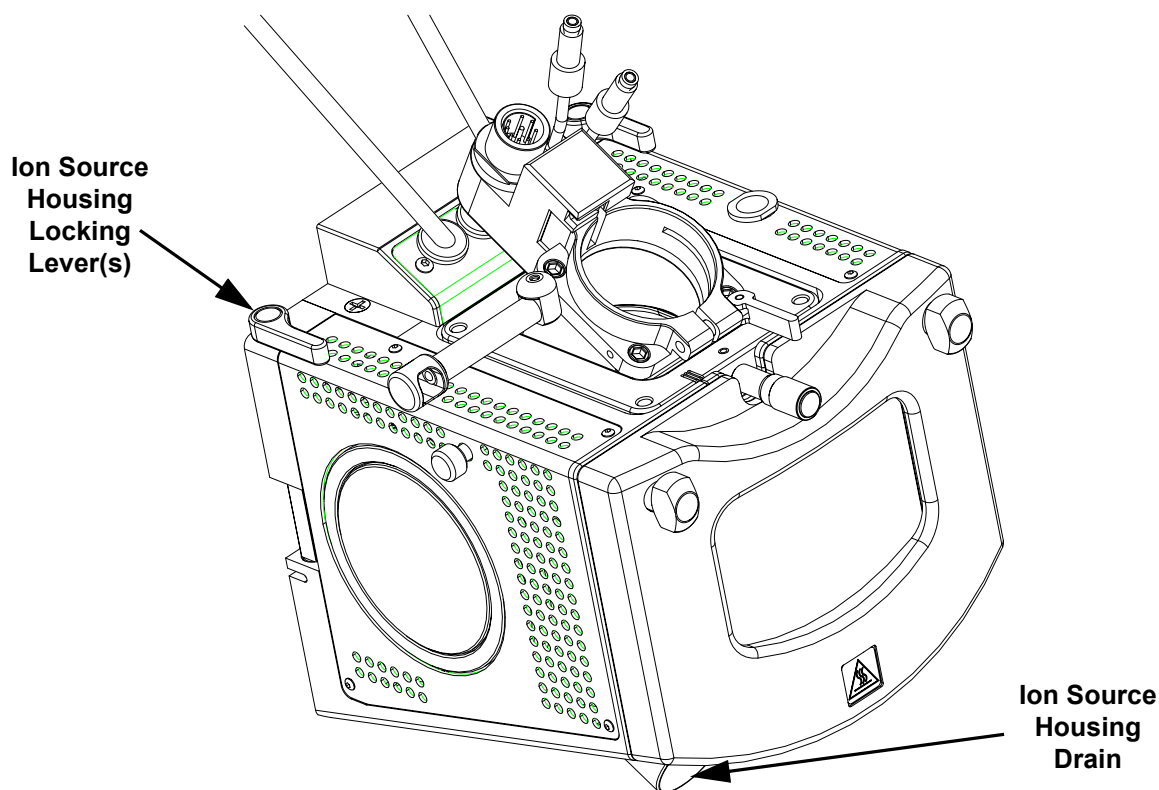

Figure 2-5. Ion Max ion source, showing detail of components
1. Remove the drain tube from the ion source housing drain. See Figure 2-5.